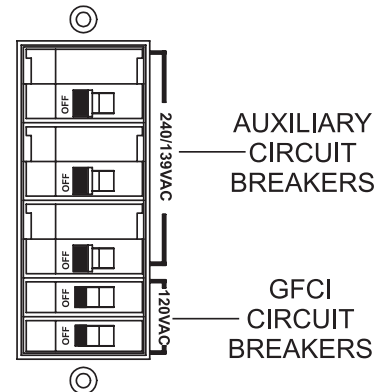

Figure 38. GFCI and Auxiliary Circuit Breakers (OFF)
3. Make sure the **GFCI and auxiliary circuit breakers** are placed in the **OFF** position (Figure 38).